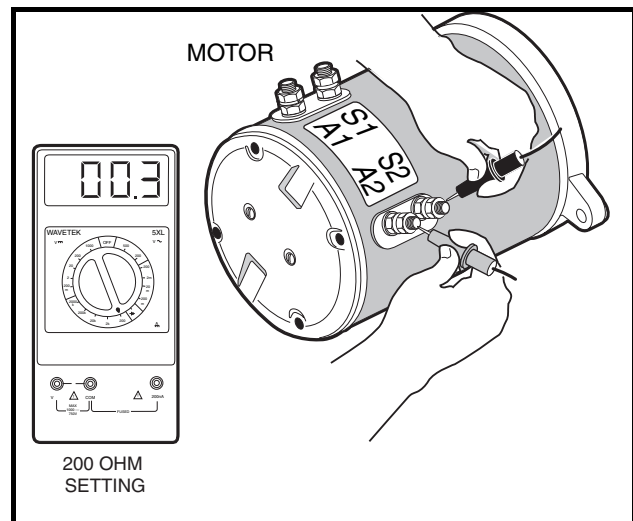

Figure 11-20 Forward/Reverse Continuity Test (Forward Position)
- With Forward/Reverse handle in FORWARD, place red (+) probe on A2 motor terminal and place the black (–) probe on the S2 motor terminal. Meter should indicate continuity (**Figure 11-20, Page 11-19**).